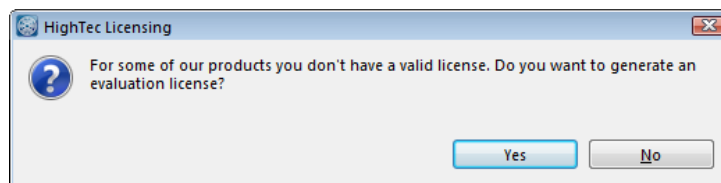

Figure 8 HighTec Licensing dialog
6. The HighTec Licensing dialog appears (Figure 8)